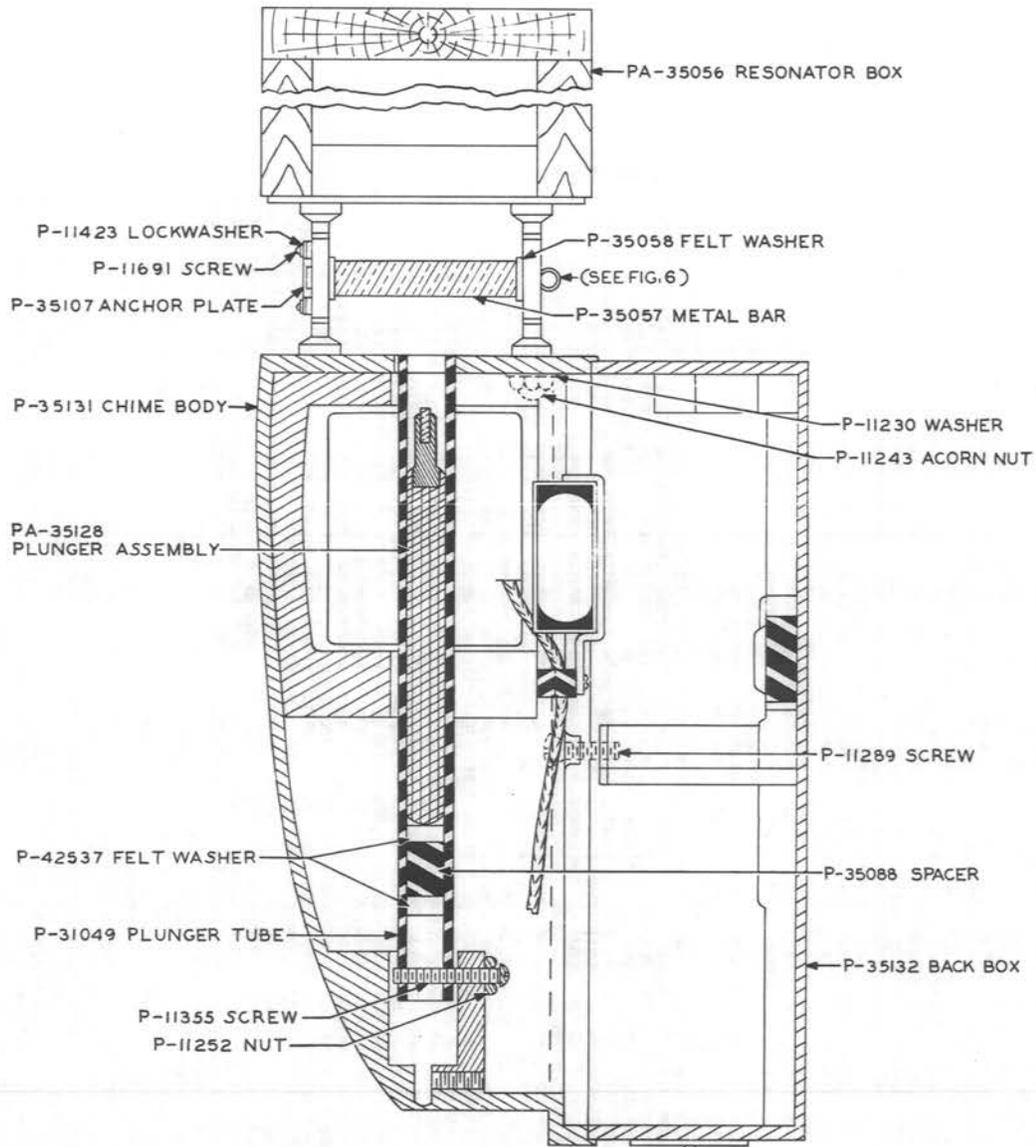

Fig. 2 - KS-5594, L1 and L2 Signals
**KS-5594, L1 and L2 Signals (Fig. 2)**